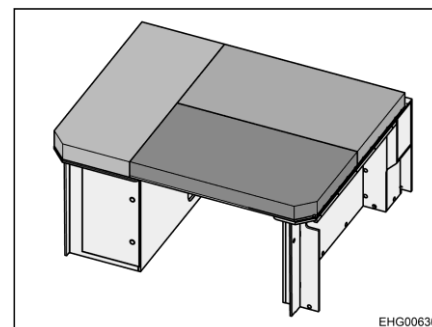

Fig. 32 Rear bed (converted for sleeping)
- Distribute the cushions on the lying surface as shown in Fig. 32.